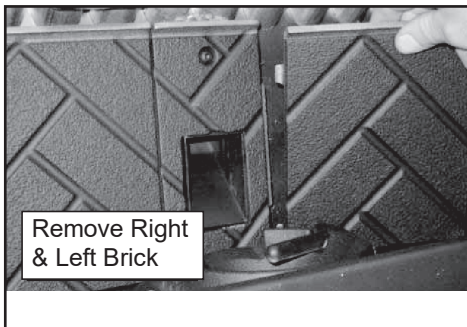

Figure 27.2
3. The top baffle must be removed before you can remove the right and left brick. Remove the right brick by holding top lip of brick and lifting up, then push outside edge back. Slide brick to the right until it is flush with the firebox. Rotate the inside edge of the brick forward and remove brick. Repeat for left brick (Figure 27.2).